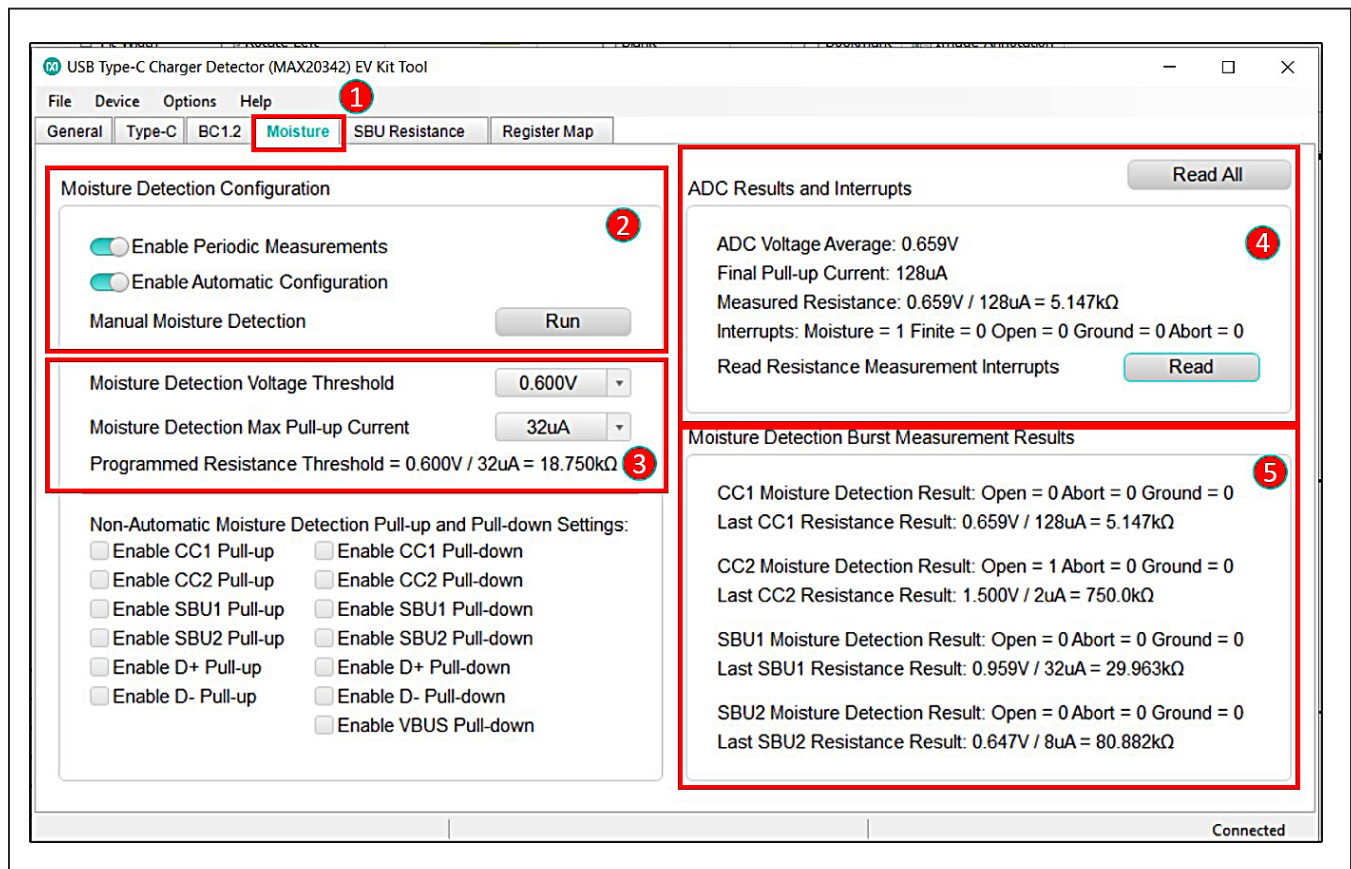
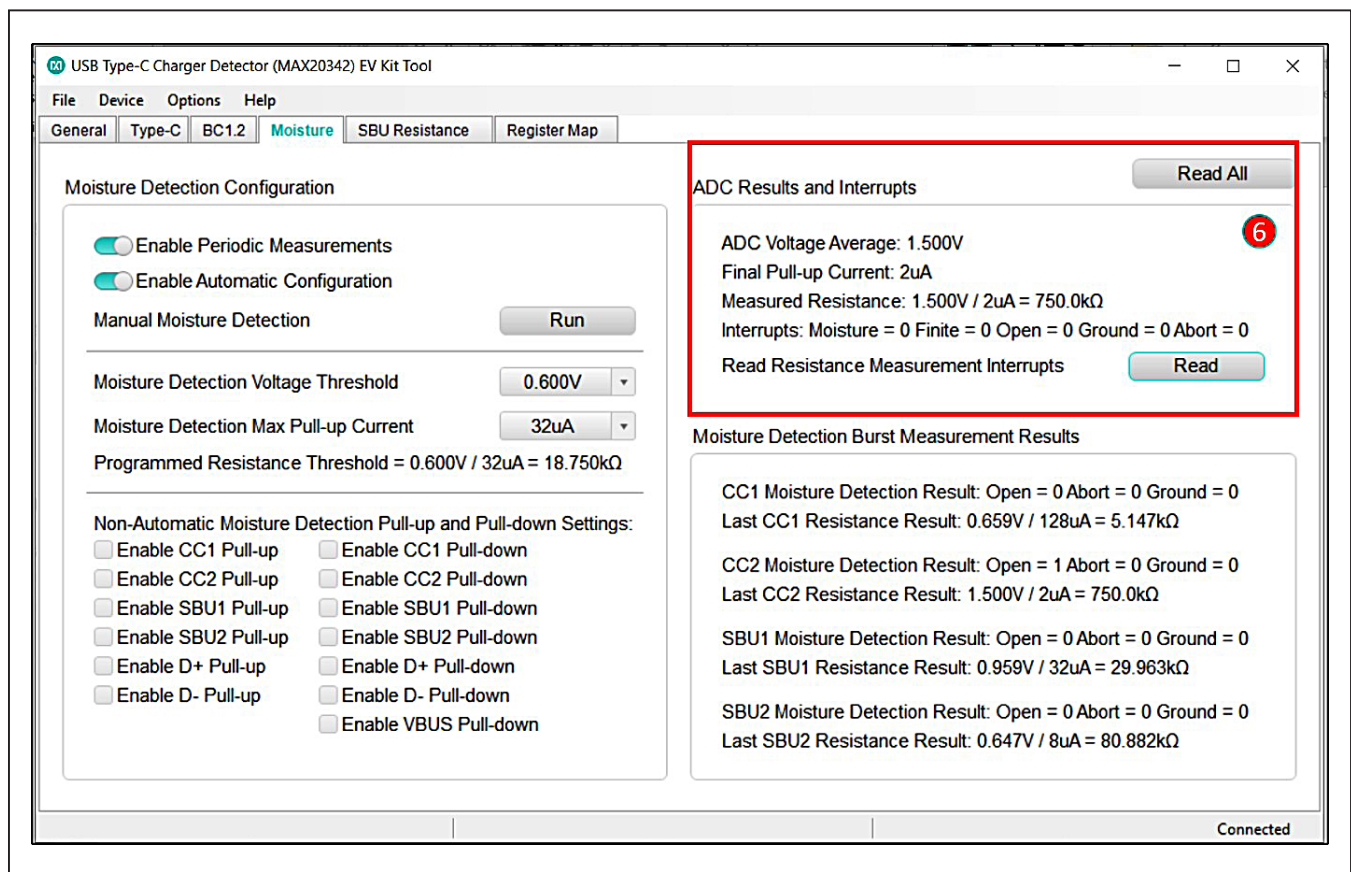

Figure 12. Moisture Detection Shows Resistance Measurement Results of CC1
Figure 13. Moisture Detection Shows Resistance Measurement Results of CC2
Interpreting moisture detection results is detailed in the following procedure and Figure 12.
5) After 10 seconds, the ADC shows the resistance measurement of pin CC2 (see Figure 13). As CC2 is left open, the **Measure Resistance** displays the highest ADC value equivalent to **750.0kΩ**.
6) The **ADC Results and Interrupts** panel is updated every 10 seconds. The resistance measurement results of CC1 and CC2 are shown alternatively in Figure 12 and Figure 13.